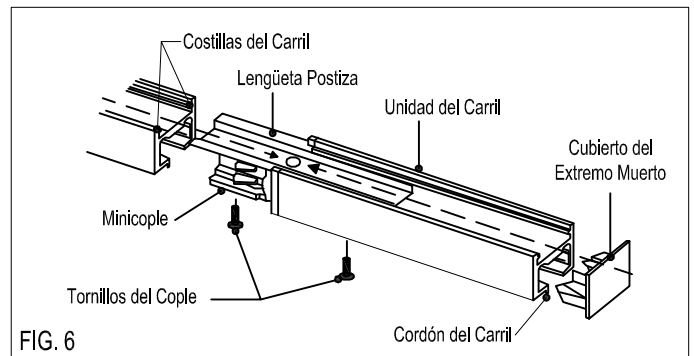

FIG. 6
3. Insert Coupler and additional Track Unit as necessary. (Ensure spline is under track ribs.) (Fig. 6).
5. Tighten (2) Coupler Screws (Fig. 6).
7. Insert Dead End Cover into end of last Track Unit in run (Fig. 6).